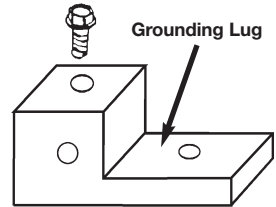

**Figure 1a**
- **(if equipped)** Remove shipping shims. See Figure 1a.